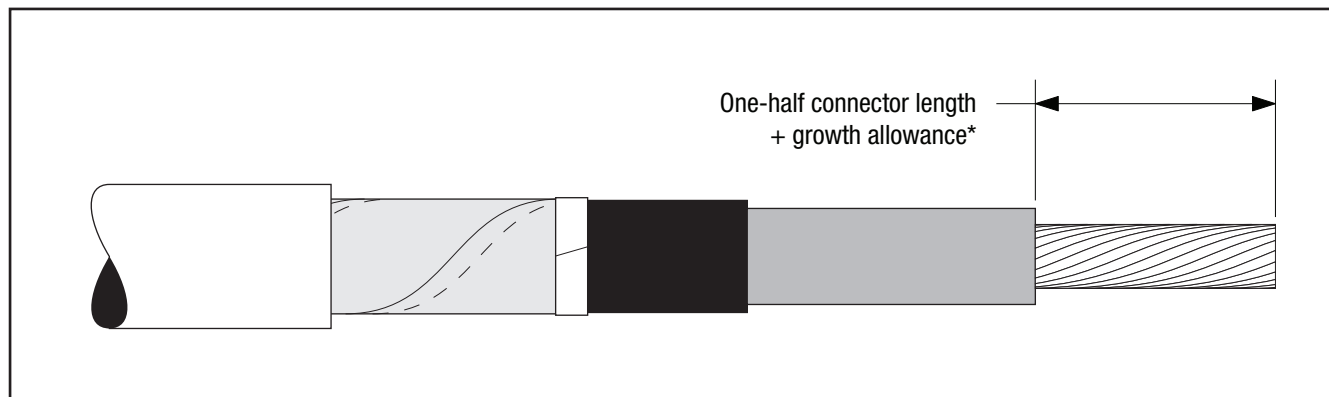

Figure 6
3.3 If using a crimp type connector, remove cable insulation for 1/2 connector length plus an allowance* for increases in connector length due to crimping. Insulation removal length shall not exceed 2 7/8" (73 mm) from conductor end. Do not install connector now (Figure 6).